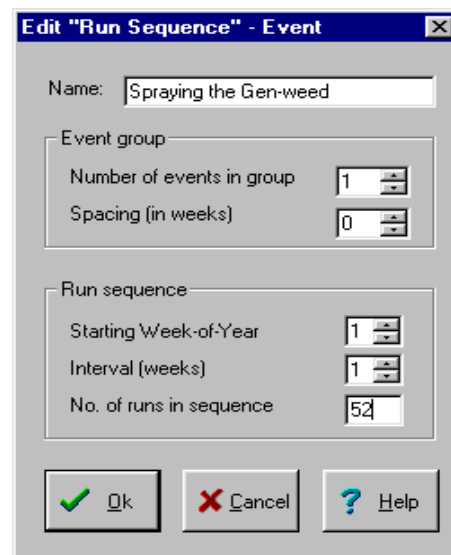

Figure 14.3 Edit "Run Sequence" - Event Window
9. In the '**Edit "Run Sequence" - Event**' dialogue box (figure 14.3) complete the following steps in the appropriate editing boxes;
- c. Each event has only a single administration of the spray, so set the '**Number of events in group**' to one (1);
- d. The '**Spacing (in weeks)**' is set to zero (0);
- e. The '**Starting Week**' is set to one (1);